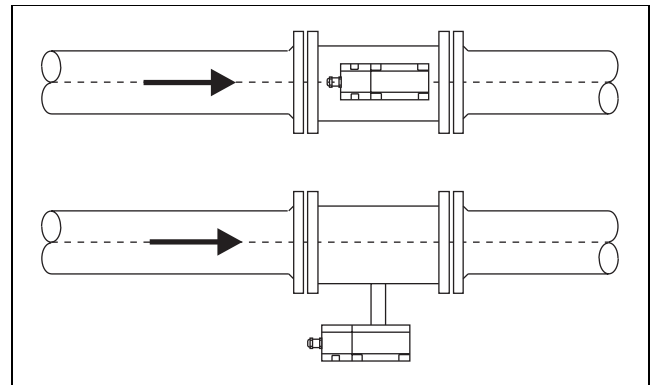

Fig.13 Installations for high temperatures
- For installations in horizontal pipelines with fluid temperatures $> 150^\circ\text{C}$, the installation scheme shown in Fig. 13 is recommended.